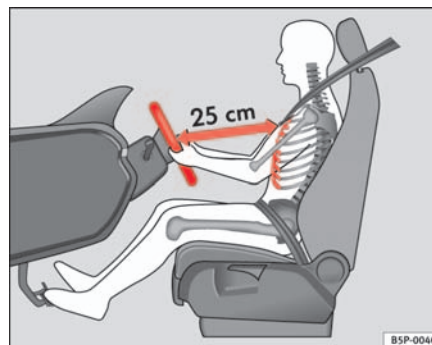

Fig. 97 Proper sitting position for driver
- Adjust the steering wheel in this way until the correct position is set ⇒ fig. 97.
- Adjust the driver seat or steering wheel so that there is a distance of at least 25 cm between the steering wheel and your chest ⇒ page 128, fig. 97. If you fail to observe the minimum distance, the airbag will not protect you. Risk of fatal injury.